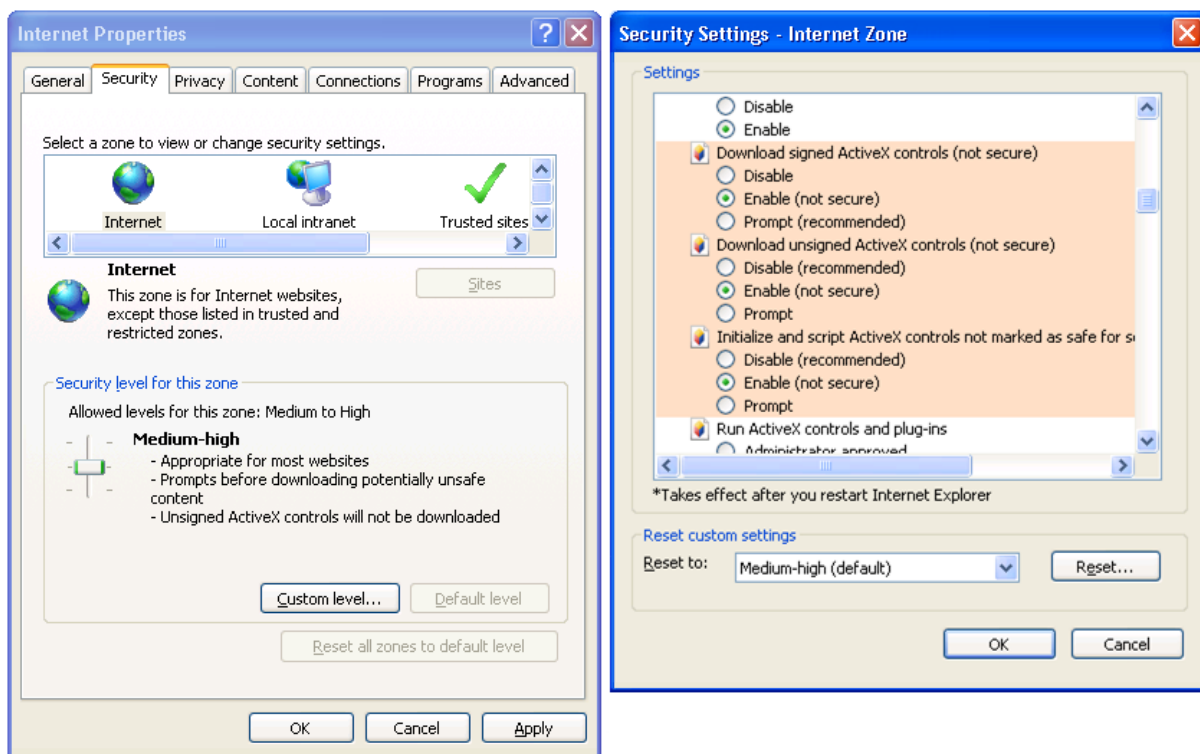

Figure 4-2
3. If you can't download the ActiveX file, modify your browser settings as follows. (See Figure 4-2.)